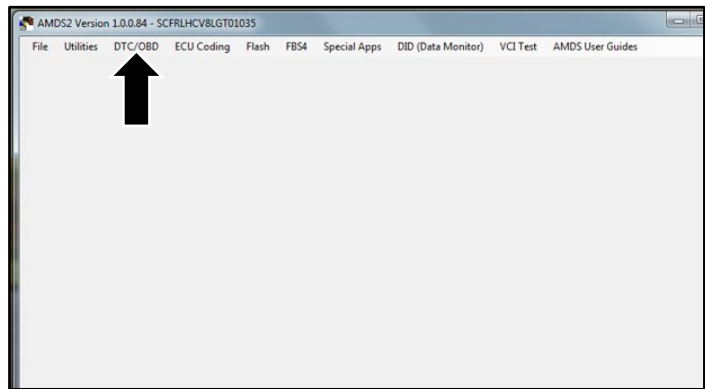

Figure 9
13. Click the “DTC/OBD” button (refer to Figure 9).